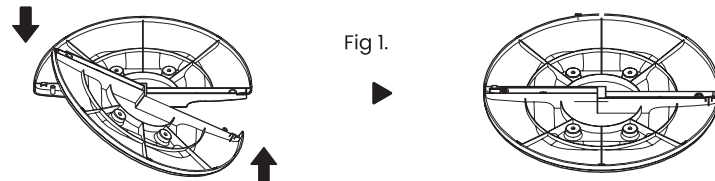

Fig 1.
1. Take the two parts of the base, align the centres and snap them together as shown in fig 1.